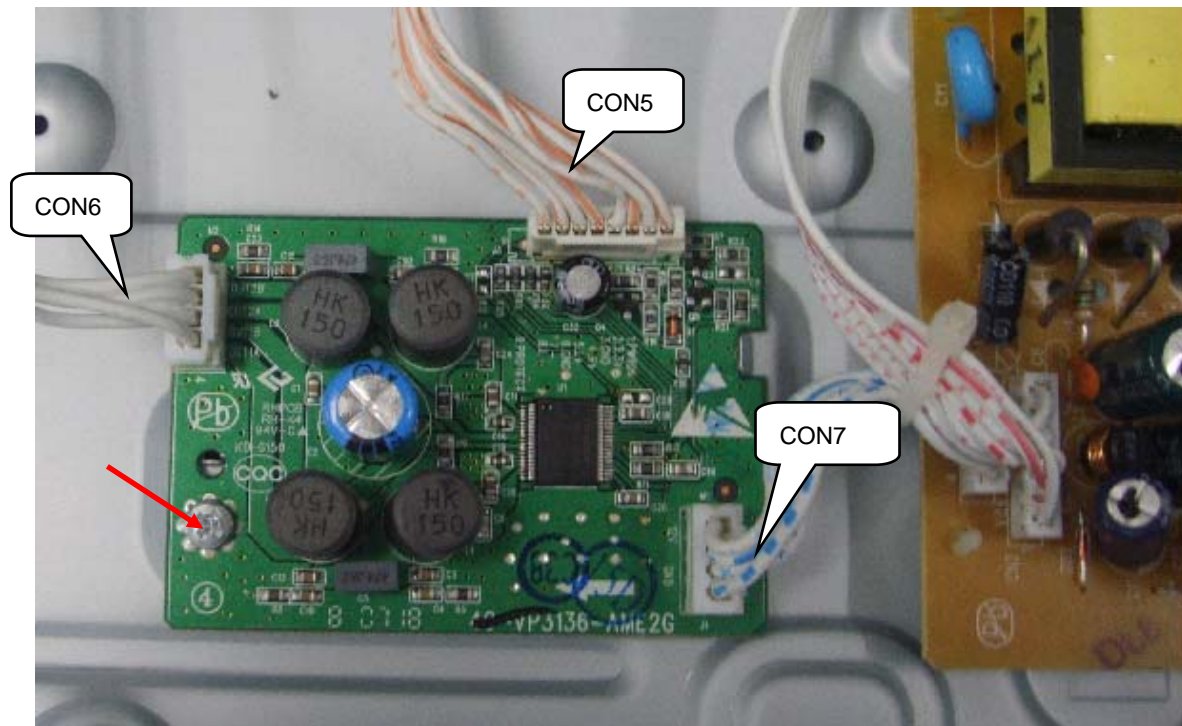

Figure 8
**Step6:** Dismantling Amplifier Board, first disconnect the 3 connector, then remove 1 screw. (Figure 8)